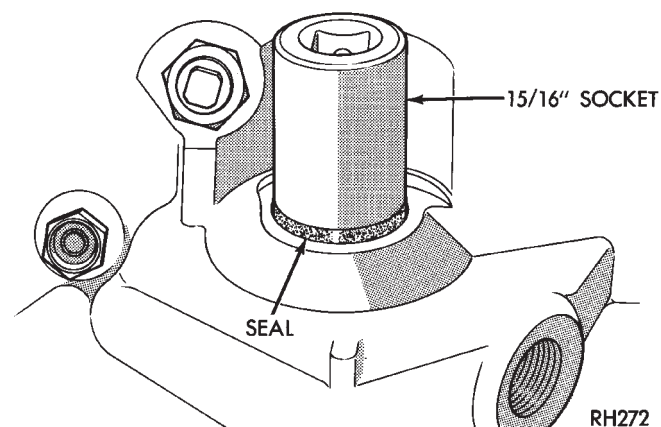

Fig. 126 Installing Manual Lever Shaft Seal
(36) Install magnet in oil pan. Magnet goes on small protrusion at corner of pan.
(37) Position new oil pan gasket on case and install oil pan. Tighten pan bolts to 17 N·m (13 ft. lbs.).
(38) Install new valve body manual shaft seal in case (Fig. 126). Lubricate seal lip and manual shaft with petroleum jelly. Start seal over shaft and into case. Seat seal with 15/16 inch, deep well socket.